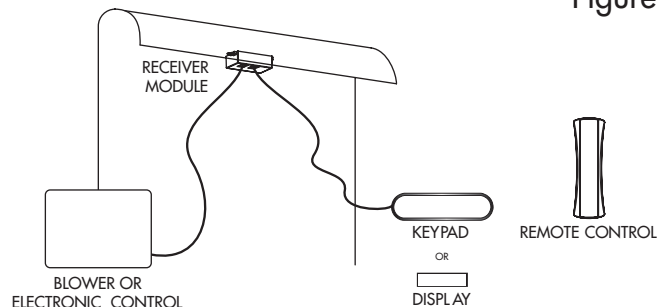

Figure 7B
1. Plug in the cable as shown in Figure 7B.